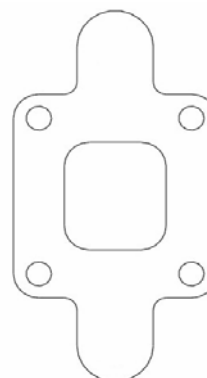

Figure 6
- 2002 or newer V8 applications (serial #0M600000 – Above) and 2003 or newer V6 applications (serial #0M615000 – Above) were equipped with an exhaust system termed 'Dry Joint'. Order FWC Conversion kit # MFH-5320-B. This kit includes: two Dry Joint block-off gaskets, a lube oil bracket, a strap, and two fasteners. The Dry Joint gaskets are used on Dry Joint applications only and the lube oil bracket is required to relocate lube oil bottle that is mounted to the inside of the lift eye/power steering bracket (serial#0M640000 – Above) (see Figures 6, 7, and 8).